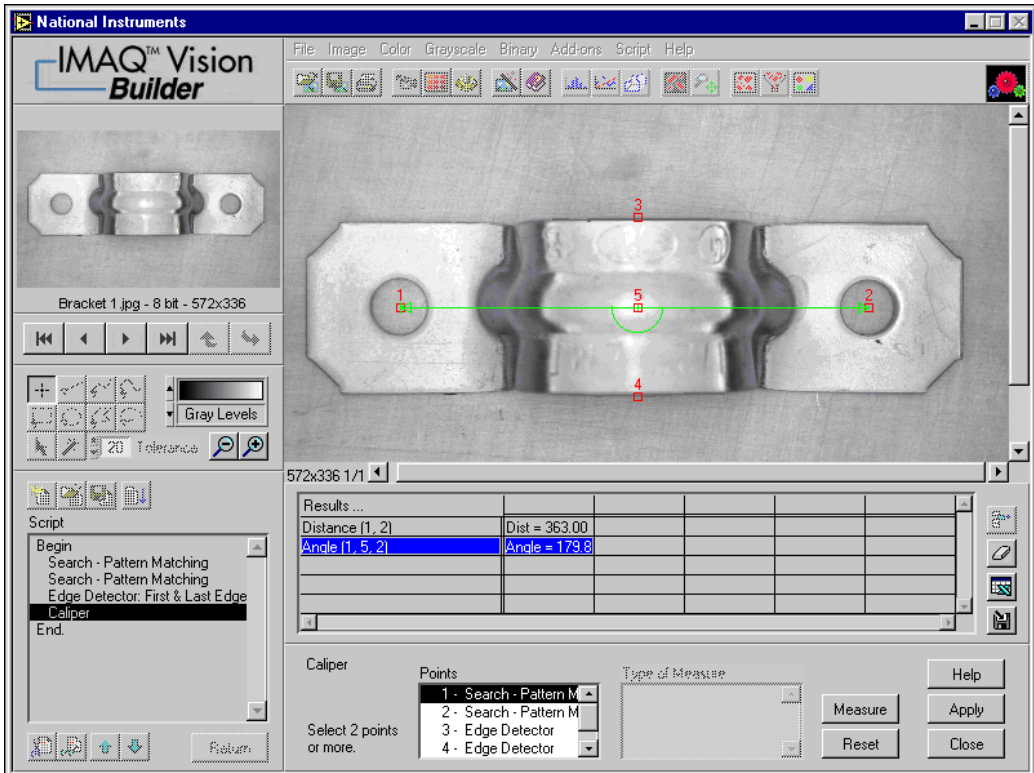

Figure 4-7. Using the Caliper Tool to Collect Measurements
10. Click on points **1**, **5**, and **2** (in that order) to find the third measurement—Bracket Angle, which measures the angle of the bracket's arms with respect to a vertex at point 5, as shown in Figure 4-7.
Figure 4-7 shows the image with Bracket Distance and Bracket Angle selected on the image and displayed in the results table.